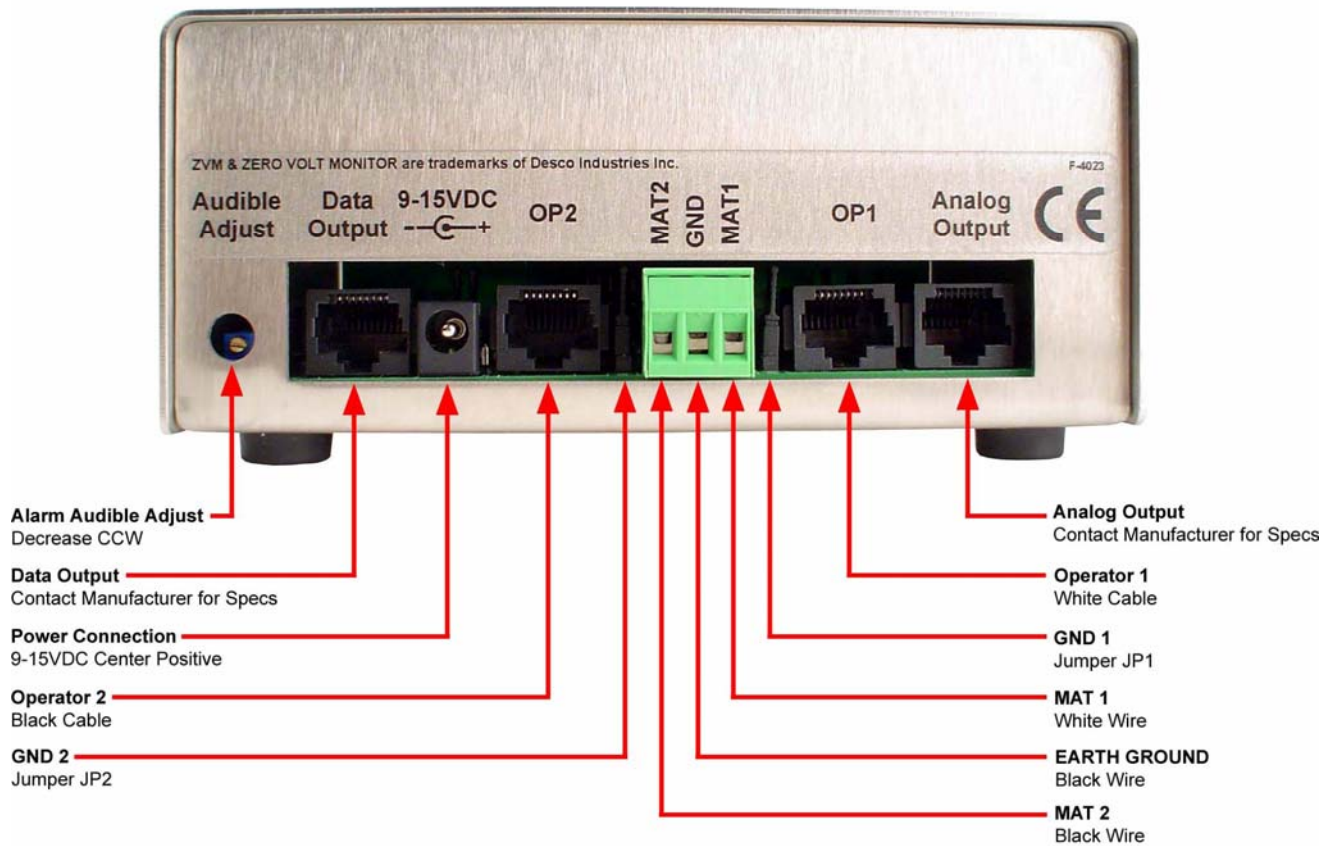

Figure 1. Rear View of the Zero Volt Monitor™
- V. Attach the tinned wire ends of the mat cords to their appropriate screw terminal block connection located at the rear of the unit (See Figure 1). The white cord is for OPERATOR 1 and the black cord is for OPERATOR 2.
- IX. Insert the modular plugs of each remote cord into their appropriate modular jacks located at the rear of the unit (See Figures 1).
- I. If the desired resistance is 3.5M ohms, jumpers JP1 (GND 1) and JP2 (GND 2), located at the rear of the unit, (See Figure 1) need to be on one pin.
- I. If the desired resistance is high (10k ohms – 3.5M ohms), jumpers JP1 (GND 1) and JP2 (GND 2), located at the rear of the unit, (See Figure 1) need to be on one pin.
- I. If the desired resistance is low (< 1k ohms), jumpers JP1 (GND 1) and JP2 (GND 2), located at the rear of the unit, (See Figure 1) need to be on both pins.